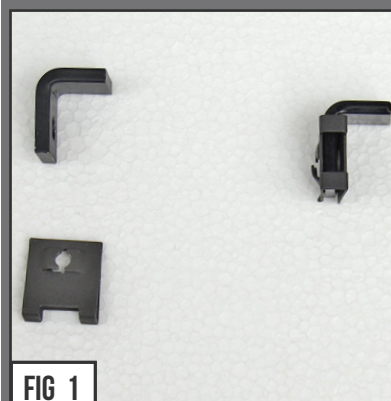

FIG 1
Note the orientation in Figures 1 & 2. Set aside to use later in just a few more steps.
6) Take your assembled hardware from Step 2 & Figure 1, thread onto the screw a few good turns. Make sure to note that the L Shaped Anchor Bracket presents the tab as seen in Figure 8.